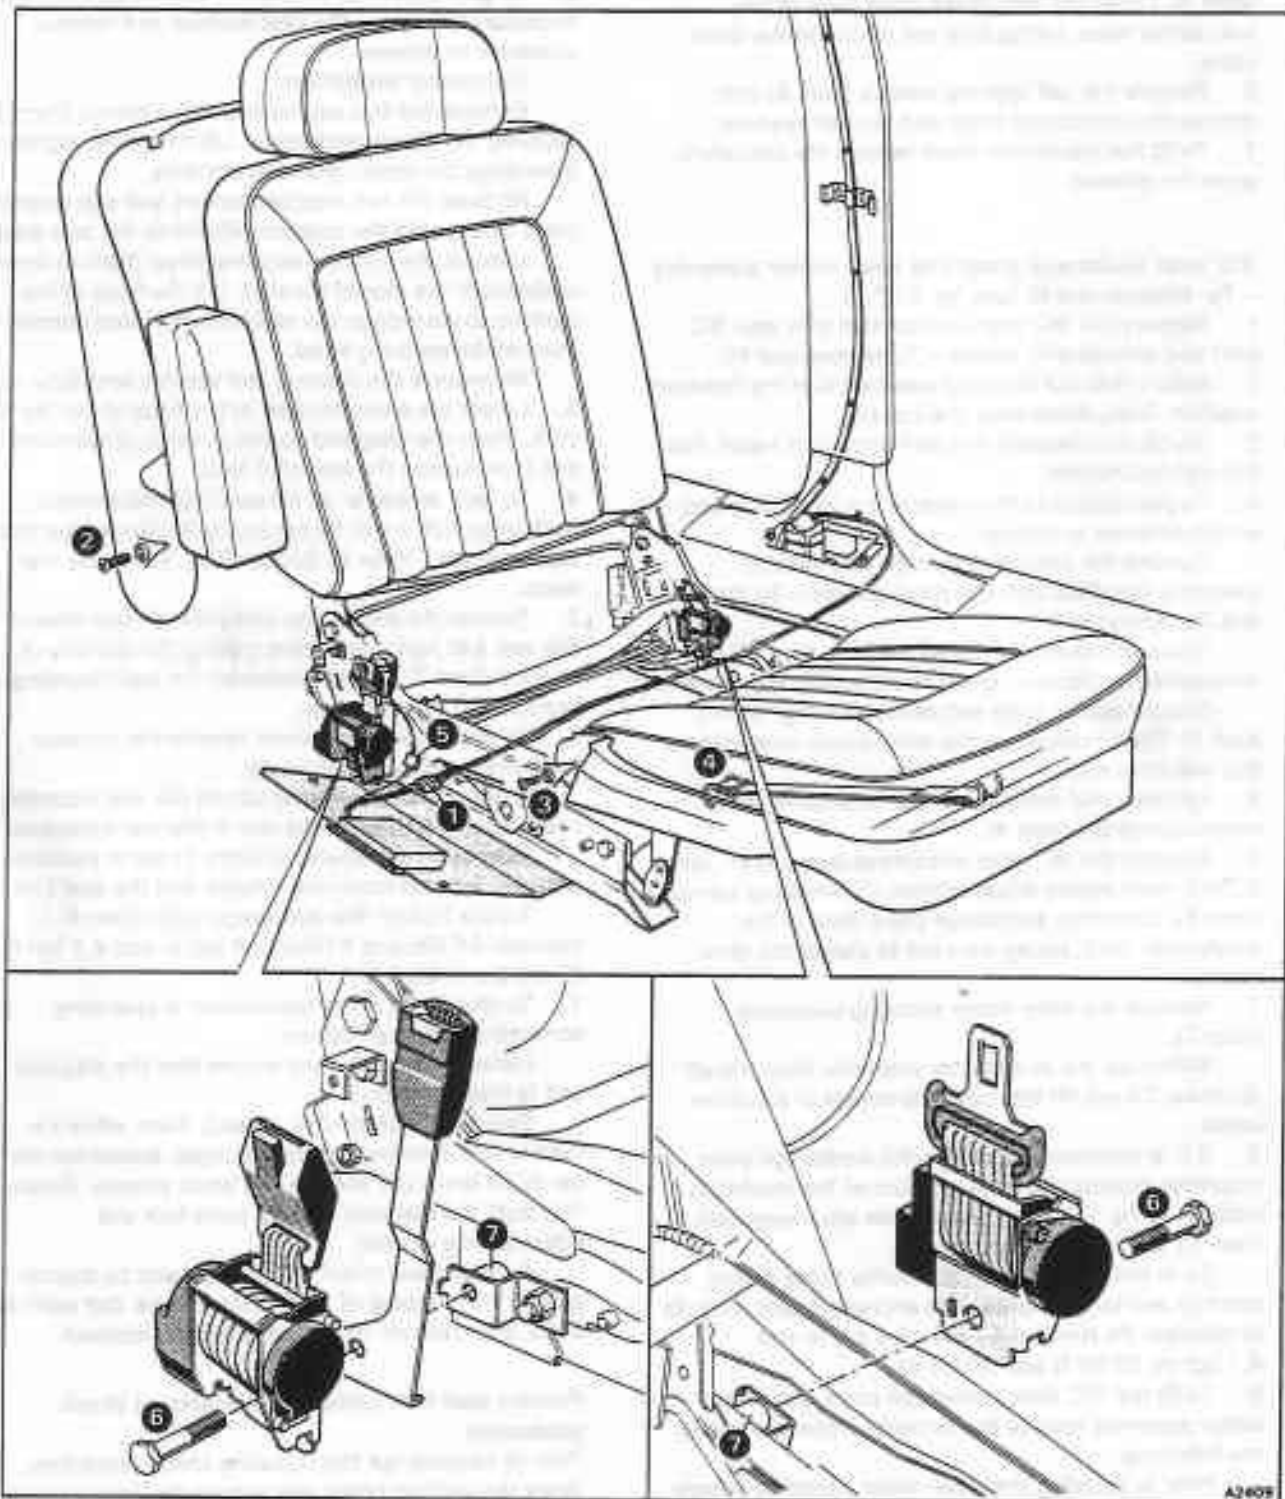

Fig. S17-3 Seat belt reel mechanisms and fittings
Disconnect the plug and socket (see fig. S17-3, item 1). Then, manoeuvre the drive motor loom clear of the seat base area.
5. Unscrew and remove the 'BC' post drive cable retaining bracket (item 4).
6. Support the 'BC' post anchorage point. Then, using a 'Torx' head socket driver remove the securing screws (item 5). Lower the anchorage point clear of the transporter track, taking care not to distort the drive cable.
7. Remove the drive motor securing setscrews (item 7).
Seat belt reel mechanisms – To remove and fit (see fig. S17-3)